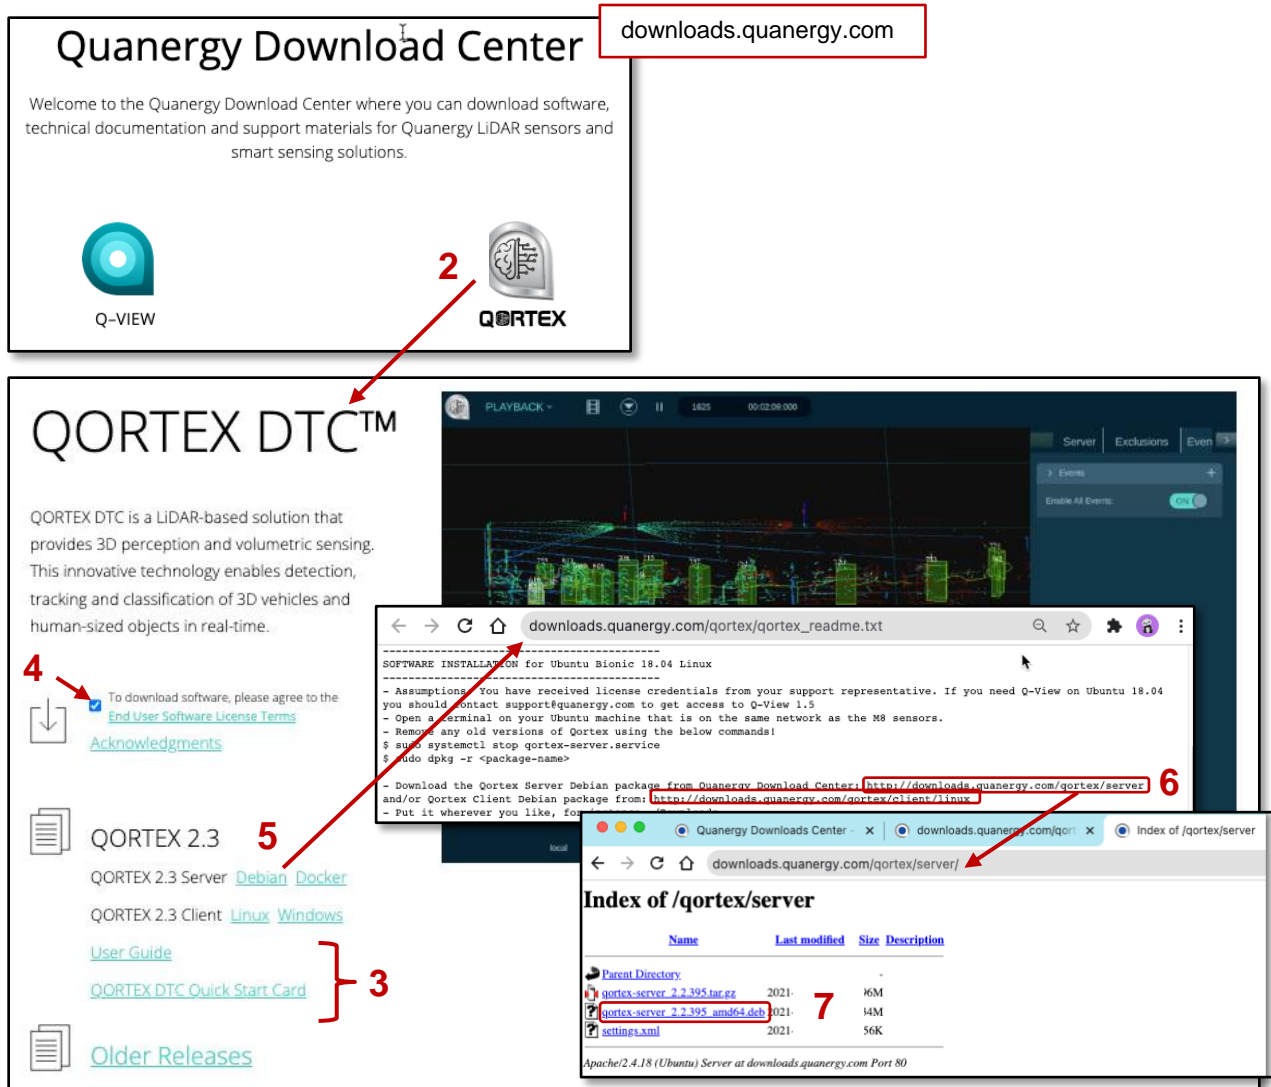

Figure 4. Quanergy Qortex Server and Client Download Path
2. In an Internet browser, navigate to the Quanergy Download Center (<https://downloads.quanergy.com/>), and click the QORTEX DTC icon  at the top of the page, or scroll to the QORTEX DTC section. See *Figure 4. Quanergy Qortex Server and Client Download Path*.